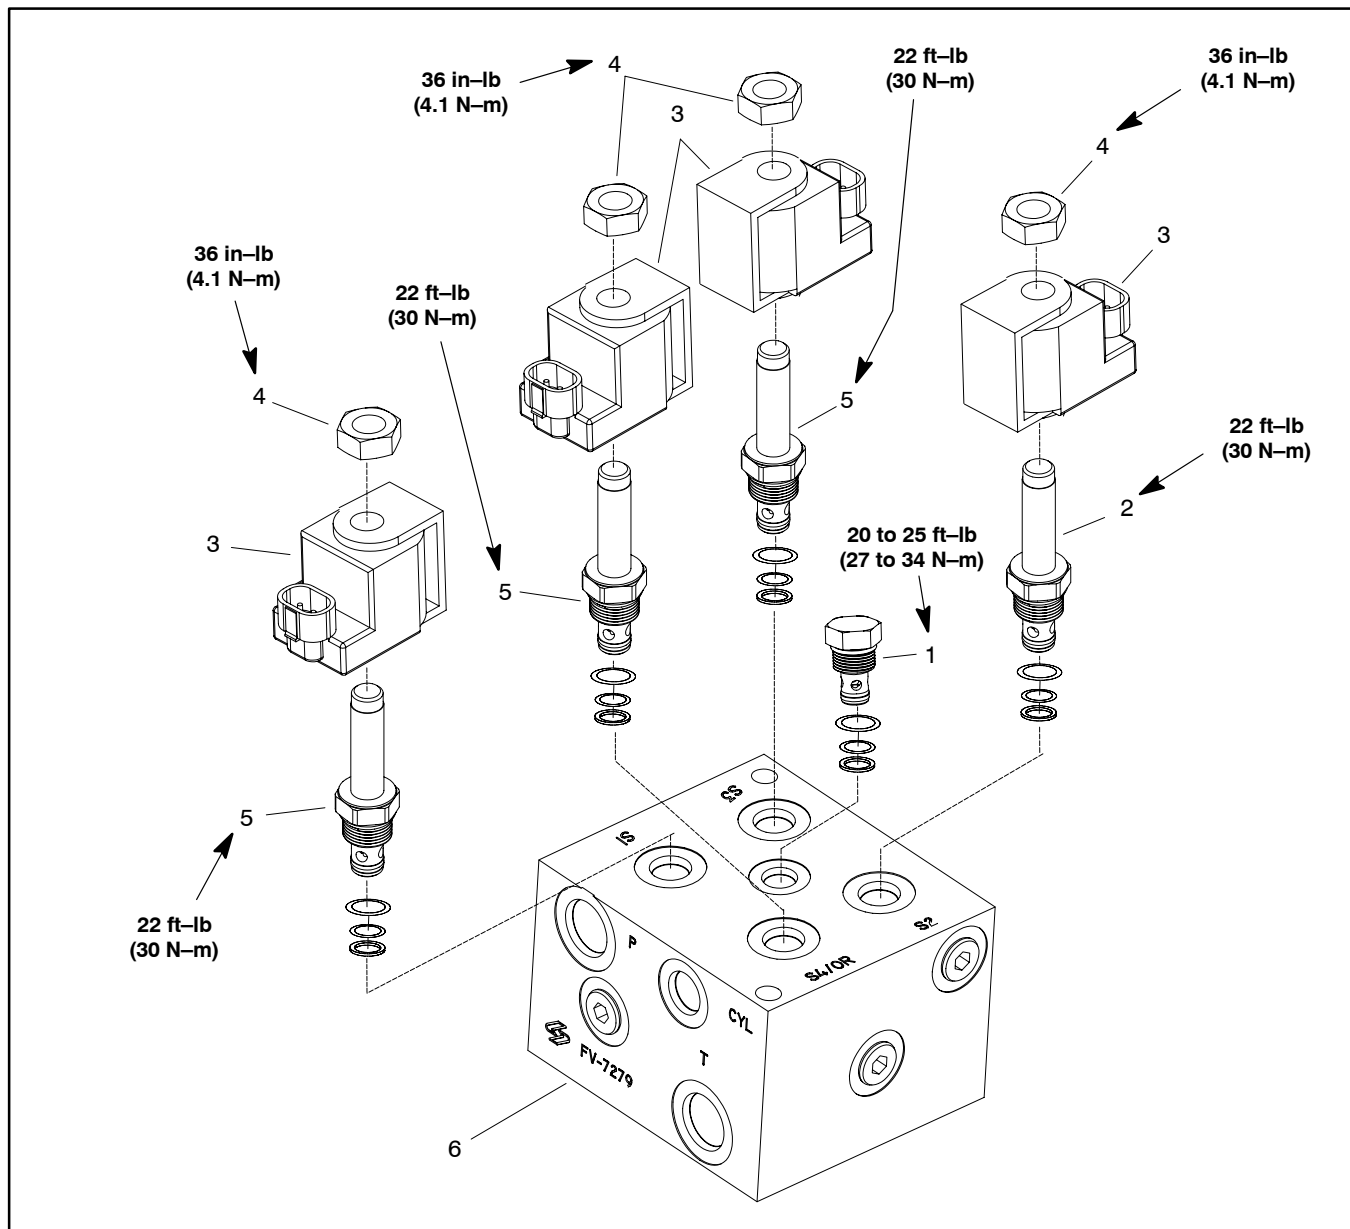

Figure 14
C. Torque cartridge valve using a deep socket to values identified in Figure 14.